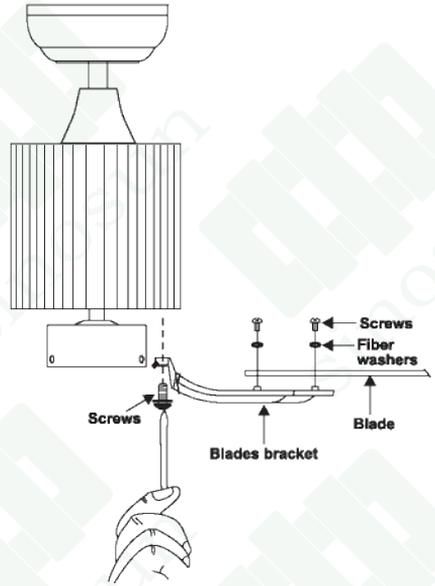

Fig.8
Step 1 Attach the blade to the blade bracket using the screws and paper washers as shown in Fig.8 . Start screw into bracket. Repeat for the two remaining screws.
Step 3 Fasten blade assembly to motor using the screws supplied. (Fig.8)